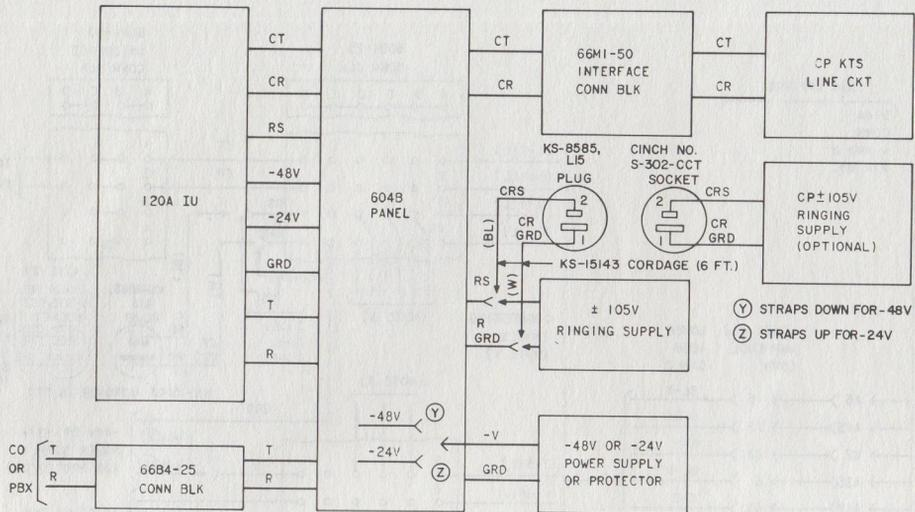
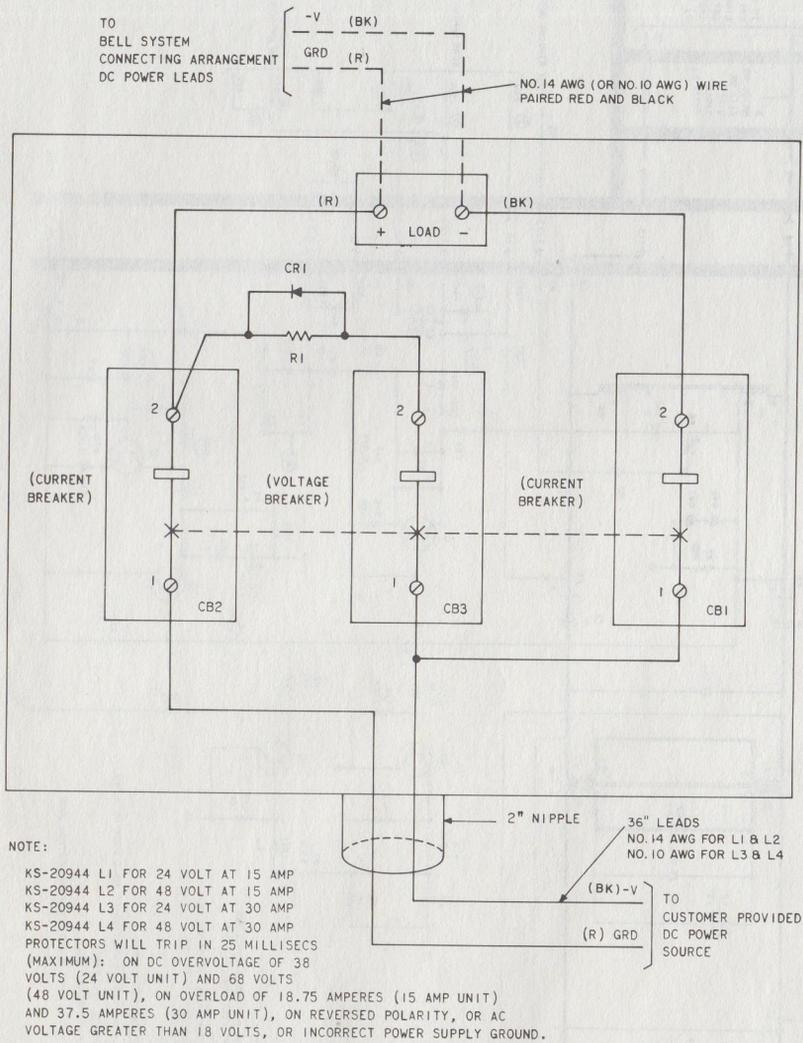

Fig. 7—Block Diagram—120A Interconnecting Unit in 604B Panel
Fig. 9—Schematic Diagram—KS-20944 Protector
3.10 Either Telephone Company or customer-provided ringing supply and dc power are connected to the terminals shown in Table E. Customer-provided dc power must be routed through the KS-20944 protector before connecting to the dc input terminals on the rear of the 604B panel. (See Fig. 9.) When using a CP ringing supply, provide a 6-foot cord (KS-15143, 2-conductor, 18-gauge) terminated in a KS-8585, L15 plug (Cinch Mfg. Co. No. P-302-CCT plug) for connecting the CP ring supply. Customer must furnish mating socket Cinch Mfg. Co. No. S-302-CCT. See Fig. 7.
KS-20944 Protector (Fig. 9)
3.16 Connect as shown in Fig. 9 following wiring instructions in Section 463-300-109. The customer must connect his power supply to the red (+) and the black (-) 14-gauge lead (or 10 gauge) extending from the unit.